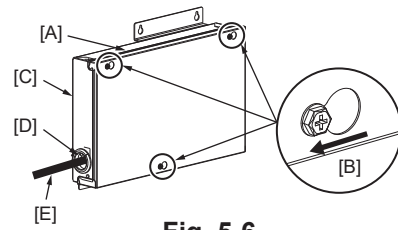

Fig. 5-6
- (1) Loosen the three screws securing the cover, then slide the cover. (Fig. 5-6)